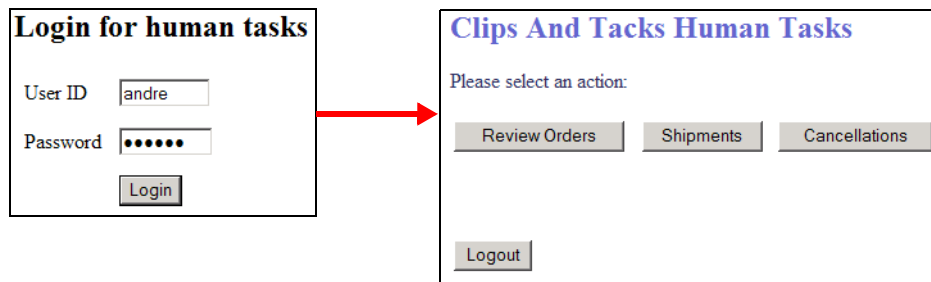

Figure 11-24 Human task application login
- ▶ You are prompted to login. Login as order manager andre (Figure 11-24).